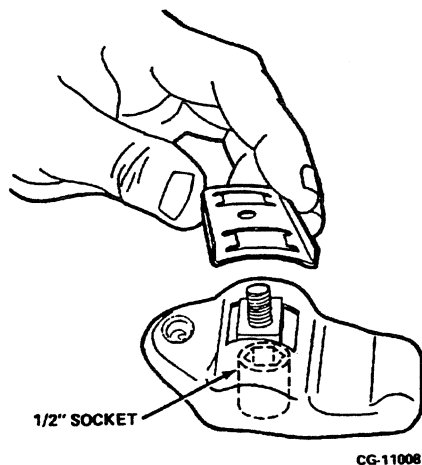

Figure 3.10. Valve Lever Reassembly
b. Place the valve lever over the post and bolt, which are held in place by the 1/2 in. socket as shown in Figure 3.10. Then position the retainer over the post and lever.